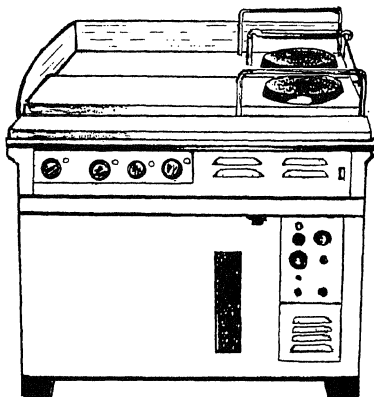

Figure 6-8.—Type C electric range.
**TYPE C.**—Type C (fig. 6-8) is found on small ships and private messes where small galleys are found with limited space. This type of range consists of a griddle on the left side and hot plates on the right side with a single oven located in the body of the range. This type of range is also available with a single griddle top and single oven compartment. Dial temperature control knobs are mounted on the body directly adjacent to each section. Control knobs for the oven compartment are located to the right of the oven compartment.